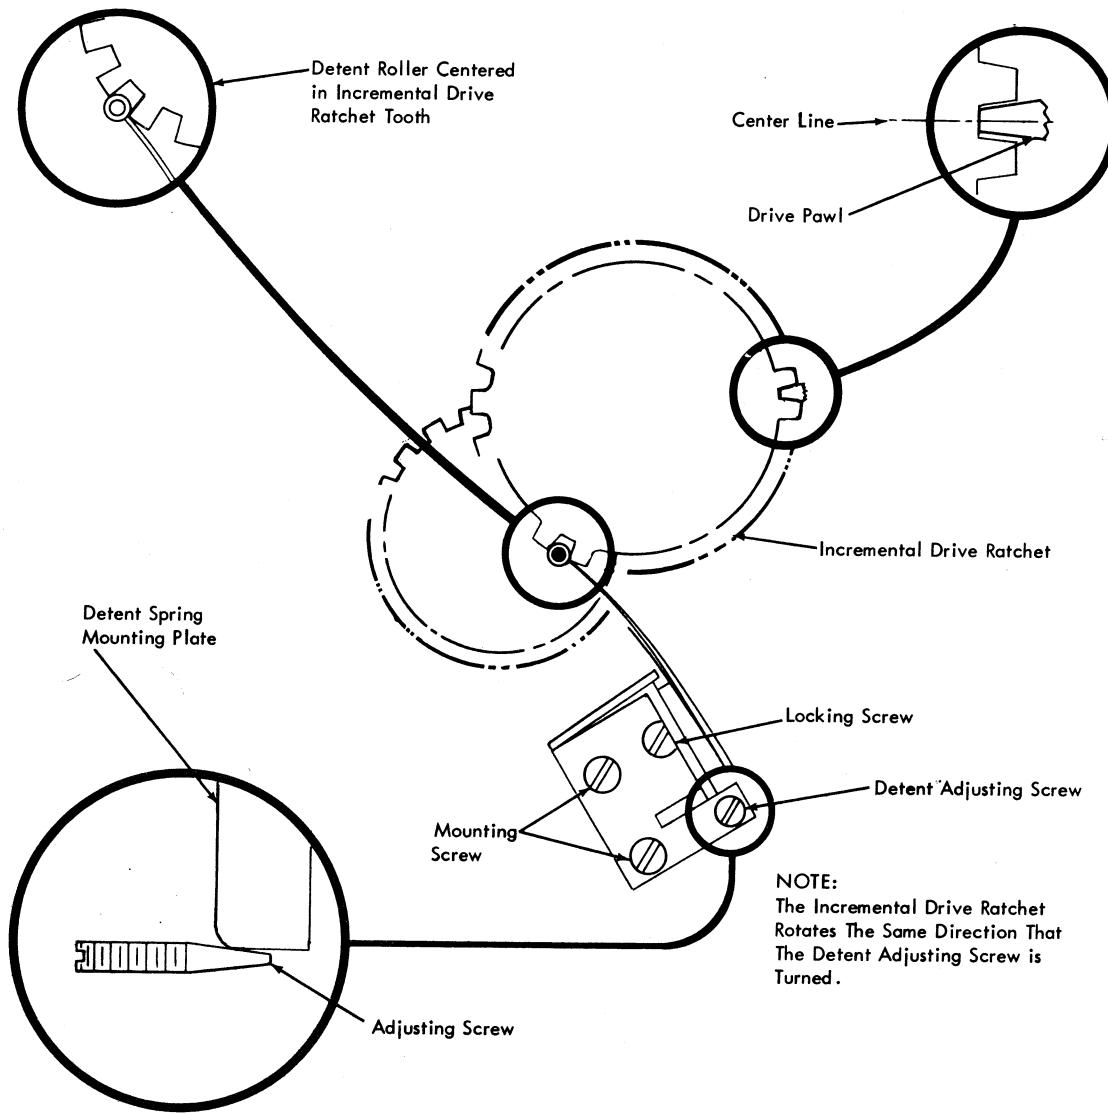

Figure 4-48. Incremental Drive Ratchet Detent Adjustment
5. Adjust the detent (Figure 4-48) for equal clearance between the non-adjustable pawl